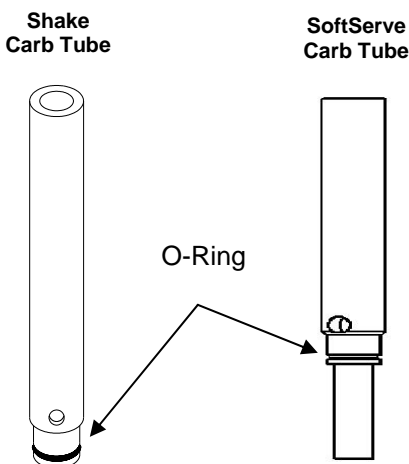

Fig. 3
| Fig. 3 Carburetor Tube | 3 |
1. Remove the carburetor tube (Fig. 3) from the mix inlet hole and lay in the bottom of the mix pan.